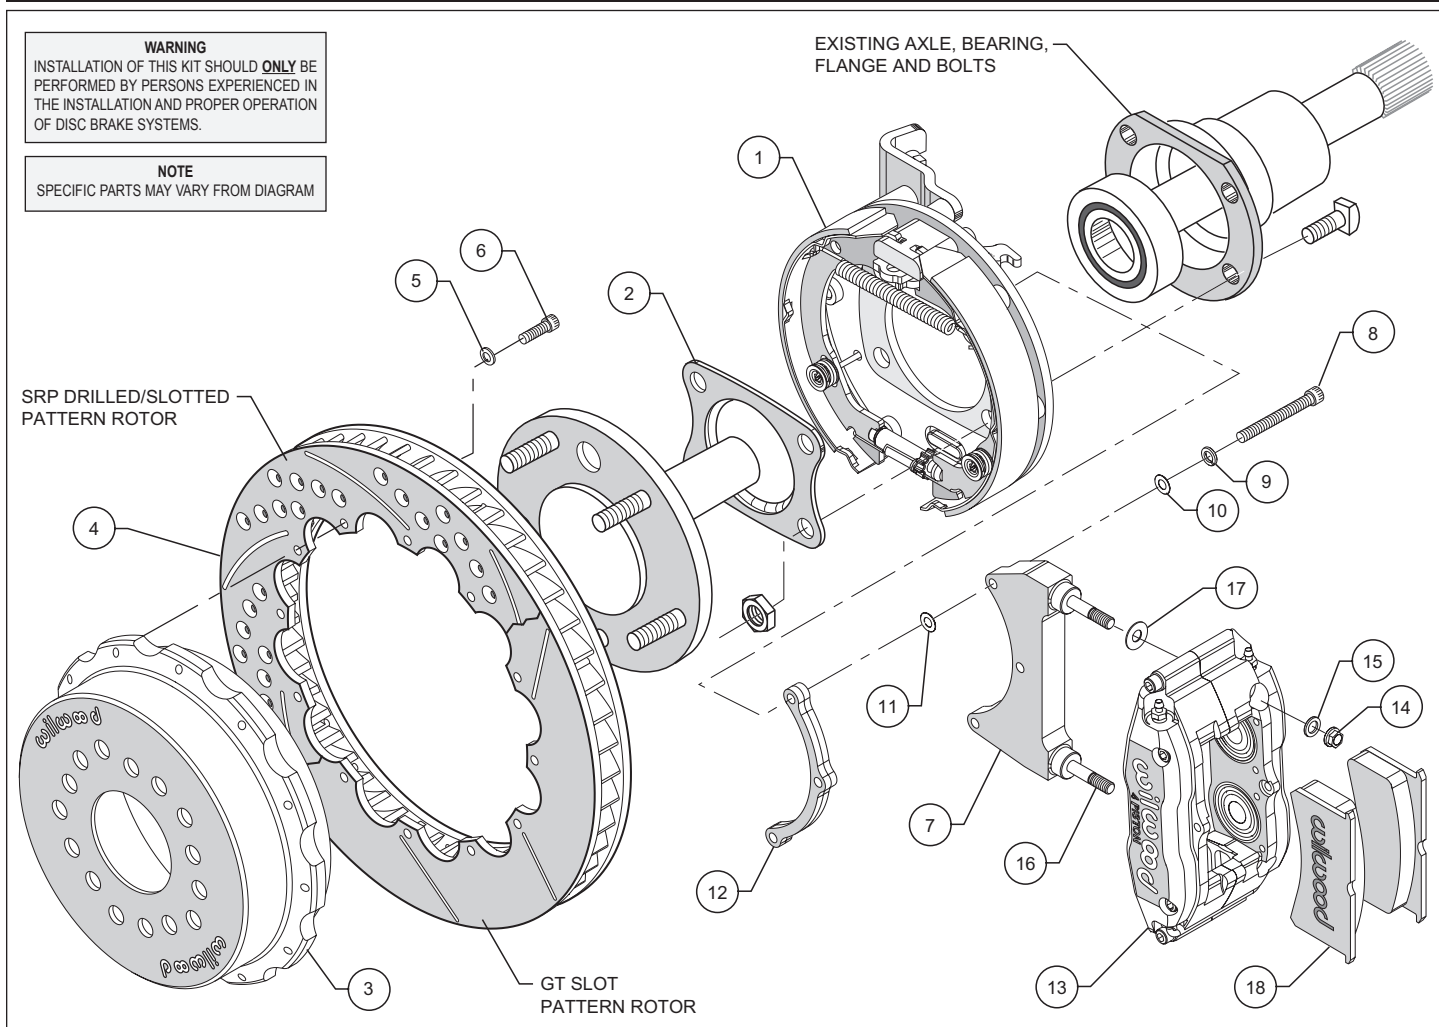

Figure 1. Typical Installation Configuration
A. **Full Circle Retainers** require the utilization of a qualified machine shop to press off the axle bearing and OEM retainer. Then have machine shop install new retainer (2), supplied with bracket kit with lip facing toward bearing, reference Figures 1, 4 and 5 (we suggest that you install a new bearing at this time, not supplied with kit).
B. **"U" Retainers** require the removal of the OEM retainer by cutting or grinding a notch in the retainer to facilitate removal. Once OEM retainer is removed, install new retainer (2) supplied with bracket kit with the "U" opening facing up and the lip facing toward bearing, reference Figures 1, 4 and 5.
•**NOTE:** Please reference the caution statement at the beginning of the assembly instructions. The caliper mounting bracket assembly (7) should be installed first with clean, dry threads on the mounting bolts (8). Install the bracket from the rear side of the bracket kit assembly (1) by sliding bolt (8) through lock washer (9), flat washer (10) bracket (7), shim washer (11) and finally through the spacer (12), see Figure 1. **NOTE:** End of bolt should not exceed inside face of insert. The bracket must tighten squarely against the back side of the bracket kit assembly (1). Inspect for interference from casting irregularities, machining ridges, burrs, etc. Use one thin shim (11) between the bracket (7) and spacer (12) during initial trial fitting.
• Install one washer (17) over each pre-installed stud (16) on the radial mount bracket (7). Slide the caliper (13) in place over the studs and rotor, then install the washer (15) and lock nut (14) to hold the caliper in place. The caliper bleed screws should be pointing up. Snug the lock nuts (14) and check that the rotor (4) is centered in the caliper (13). Add or subtract .015" shims (11) as necessary between the caliper mounting bracket (7) and the spacer (12) to center the caliper (9).
• Remove the caliper center bridge pad retainer bolt, nut, and tube from the caliper. Slide the brake pads (18) into place. They should install easily without interference. Check that the outside radius of the brake pad is aligned with the outside diameter radius of the rotor face. Add or subtract shims (17) between the caliper (13) and mount bracket (7) to gain the proper alignment. Reinstall the center bridge pad retainer tube, bolt, and locknut. The locknut should be snug without play in the bolt or tube. Be cautious not to over tighten.
• Adjust the parking brake shoes outward (using a drum shoe adjustment tool available at your local auto parts store) while spinning the hat (3) until a slight drag is felt against the hat/drum. Remove the lug nuts that were holding the hat/rotor in place. Install the wheel and lug nuts. Check to see that the wheel rotates freely without interference.
• Once all clearances have been checked, remove the wheel, caliper, hat/rotor from the bracket kit assembly (1). Secure the caliper mounting bracket (7) to the bracket kit assembly (1) using red *Loctite*® 271. Torque bolts (8) to 180 **in-lb**. Reinstall the hat/rotor assembly and again use lug nuts to hold it in place. Lubricate caliper mounting studs and nuts with lightweight oil, reinstall the caliper, torque the caliper nuts (14) to 30-35 **ft-lb**.